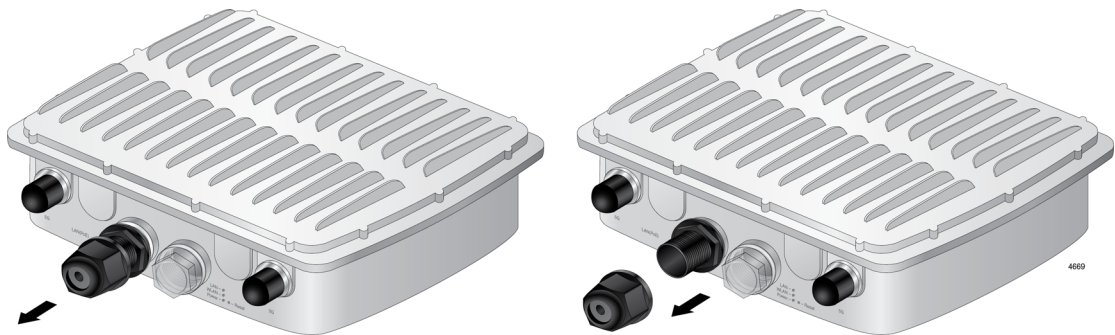

Figure 5. Removing the Cap from the LAN Port
1. Unscrew the cap at the LAN port to remove the cap from the access point. See Figure 5.